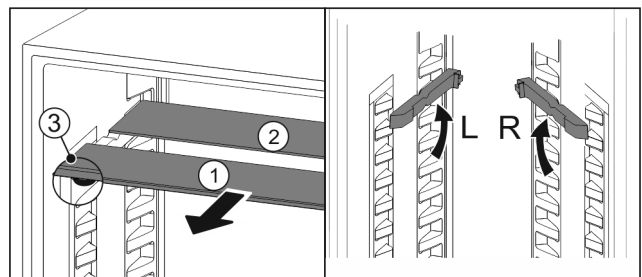

Fig. 28
- ▶ Pull the glass panels out Fig. 28 (1) from the front, one at a time.
- ▷ The glass panel *Fig. 28 (1)* with the trim strip is at the front.
- ▷ The stops *Fig. 28 (3)* point downward.